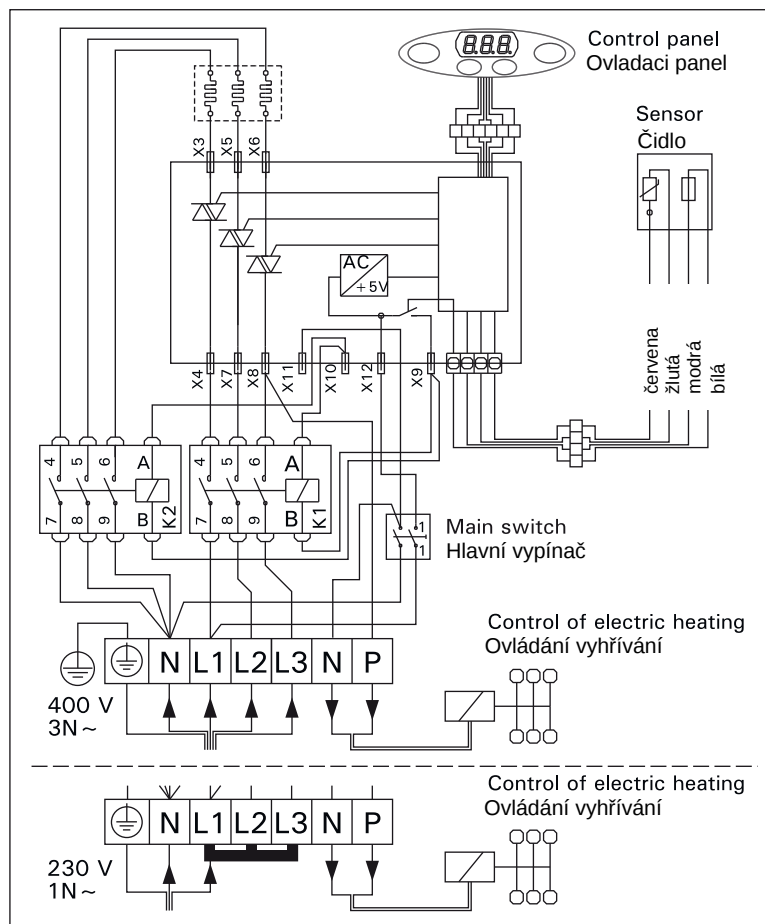

Figure 8. Electrical connections of heater PI
- In addition to supply connectors, the PI heaters are equipped with a connector (P), which makes the control of the electric heating possible. See figure 8. The control cable for electrical heating is brought directly into the junction box of the heater, and from there to the terminal block of the heater along a rubber cable with the same